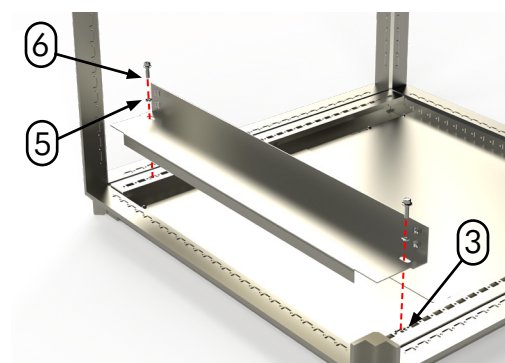

Figure 3
- Insert two cage nuts (Item 3) per OKK top and bottom element modular rails (Figures 3 & 6). See below note.
- Attach each horizontal rail (Item 2) to the OKK top and bottom elements previously installed cage nuts (Figure 3).